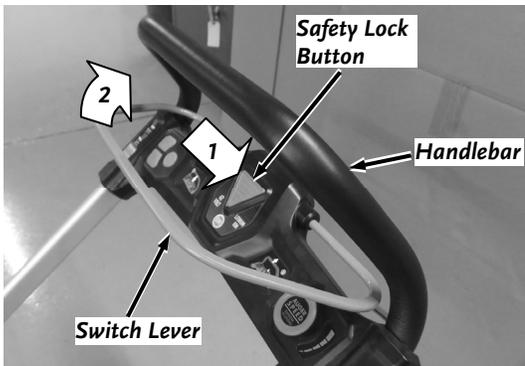

Figure 8
1. Push and hold the Safety Lock Button as you pull the Switch Lever to the Handlebar (**Figure 8**). The Motor will start and turn the Auger.